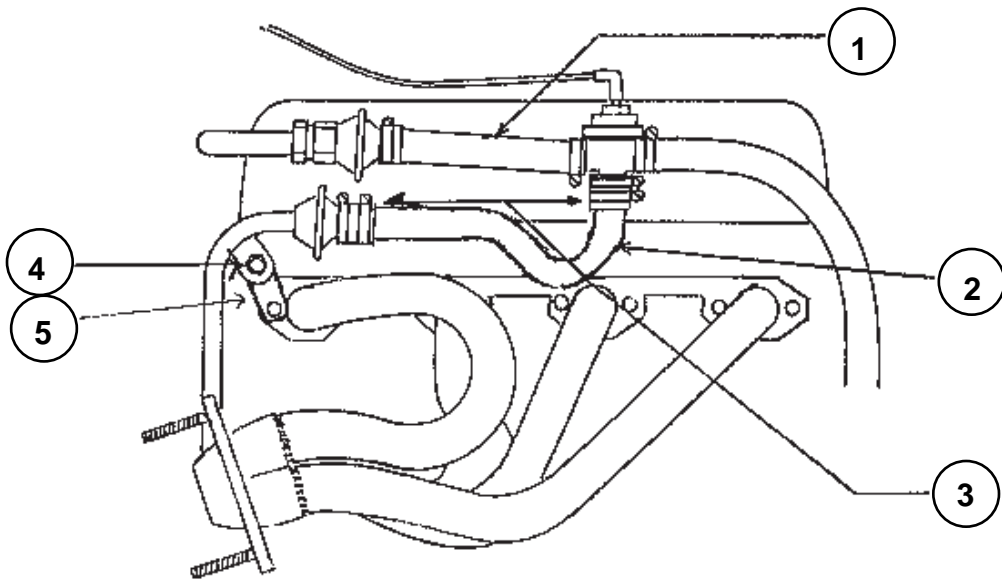

FIGURE 1
1. Use hardware supplied as shown in Figure 1 for smog hose adaptation